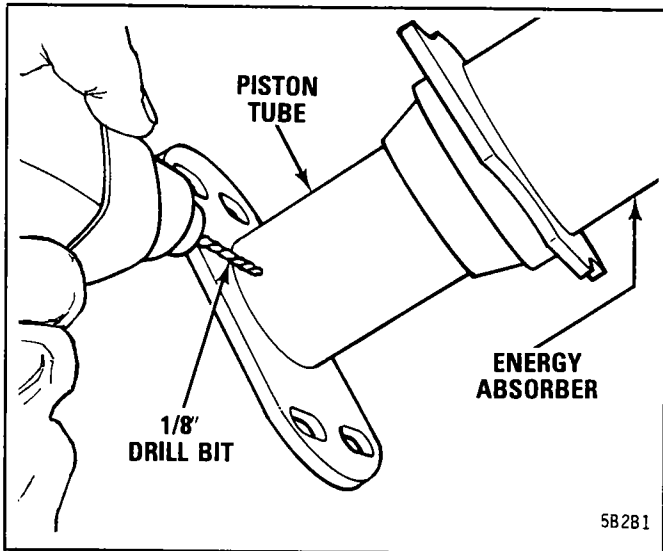

Figure 2B-1 Relieving Pressure Before Scrapping
5. If unit is to be scrapped relieve the gas pressure prior to disposal of a unit. Make an indentation with a center punch in the small cylinder section of the energy absorber. Use a 1/8 inch drill to penetrate the small cylinder wall. Figure 2B-1.
3. Wear safety glasses and drill a small hole in the piston tube near the bumper bracket, Figure 2B-1, to relieve gas pressure.